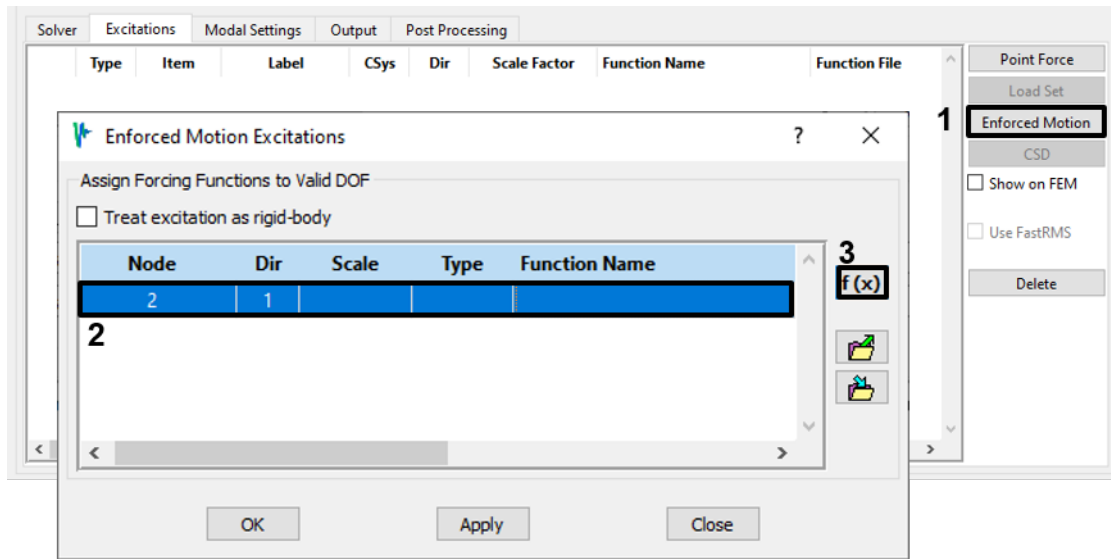

Figure 4-26. Apply a forcing function to the available enforced motion DOF.
3. On the *Excitations* tab, select **Enforced Motion**, select the one available DOF, and then click the **f(x)** button (Figure 4-26).